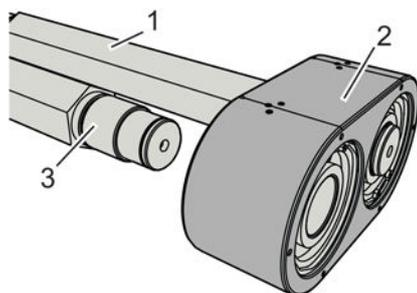

Fig. 130: Mounting the cutter block shafts
2. ➔ Insert the cutter block shafts (Fig. 130/1, 3) in the correct position into the lower bearing housing (Fig. 130/2) until the hexagon portions are positively locked in the rotating slide ring sealing parts.